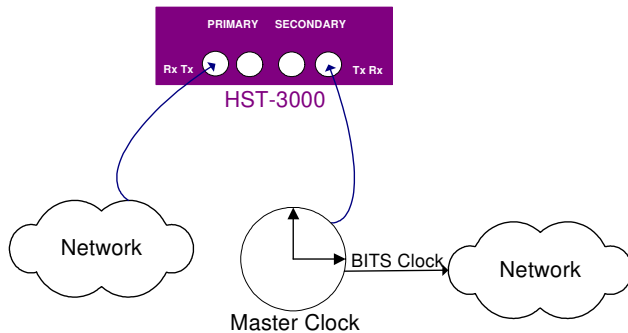

Figure 4 Timing slips connections
- 7 Connect the HST-3000 to a reference signal and to the test signal (see Figure 4):